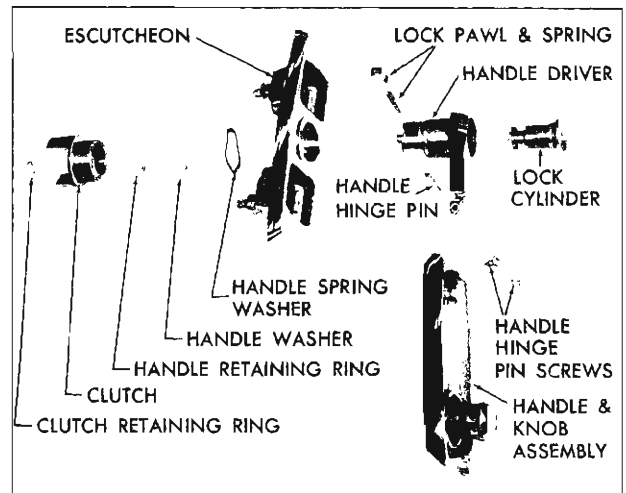

Fig. 88—Tail Gate Window Regulator Outside Handle Assembly
- Remove clutch retaining ring and slide clutch off shaft of handle driver (fig. 88).
- Insert key in lock cylinder and turn key to lock position. Depress locking pawl (fig. 88), turn key (lock cylinder) approximately $\frac{1}{4}$ turn counterclockwise and remove lock cylinder assembly, locking pawl and locking pawl spring from handle driver.
- Using a snap ring removal tool, remove retaining ring securing handle assembly (fig. 88), remove washer and spring washer from shaft of handle driver and remove handle assembly from escutcheon.
- To remove handle and knob assembly, remove handle hinge pin screws (fig. 88) and remove handle and knob assembly from handle driver.